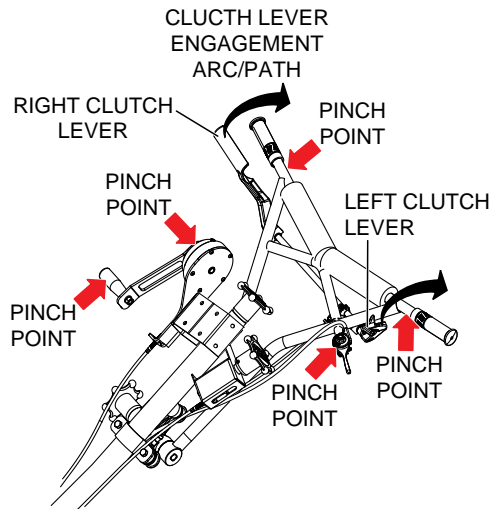

Figure 43. Clutch Levers (Blade Activation)
2. Squeeze the clutch lever (Figure 43) to begin troweling. Verify that the blades are rotating.
When engaging the clutch lever, make sure to keep hands clear of the clutch lever engagement arc/path to prevent pinching and/or bodily harm as indicated in Figure 43.